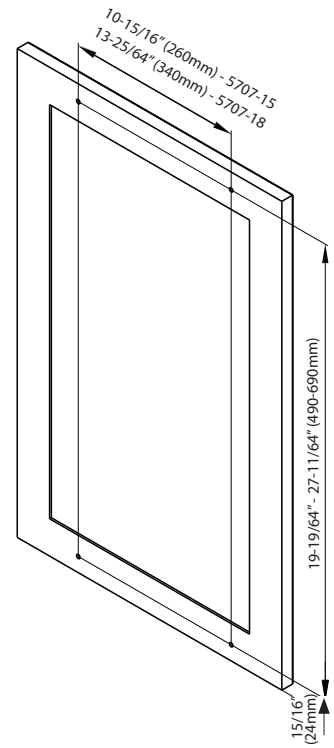

Figure 2
4) Refer to figure 2, Door Dimensions, to begin marking your door panel for mounting. **WARNING: ALL DOOR MOUNTING LOCATIONS MUST BE IN THE THICK PANEL OF YOUR DOOR!** Use your 1/16" Drill Bit and pre-drill your door mount hole markings. Place Up Bracket (D) into the top of Door Frame (C) and place Down Bracket (E) into the bottom of Door Frame (C). Attach Door Frame (C) to the back of your door using 4 of the 5/32x18MM Wood Screws (#5). Use your Phillips head screw driver and tighten all 8 pre-installed fasteners.